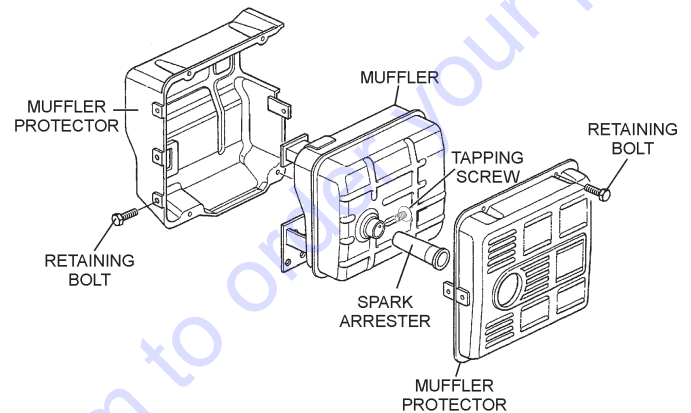

**Figure 33. Cleaning Foam Element**
3. Clean foam element (Figure 33) in warm, soapy water or non-flammable solvent. Rinse and dry thoroughly.